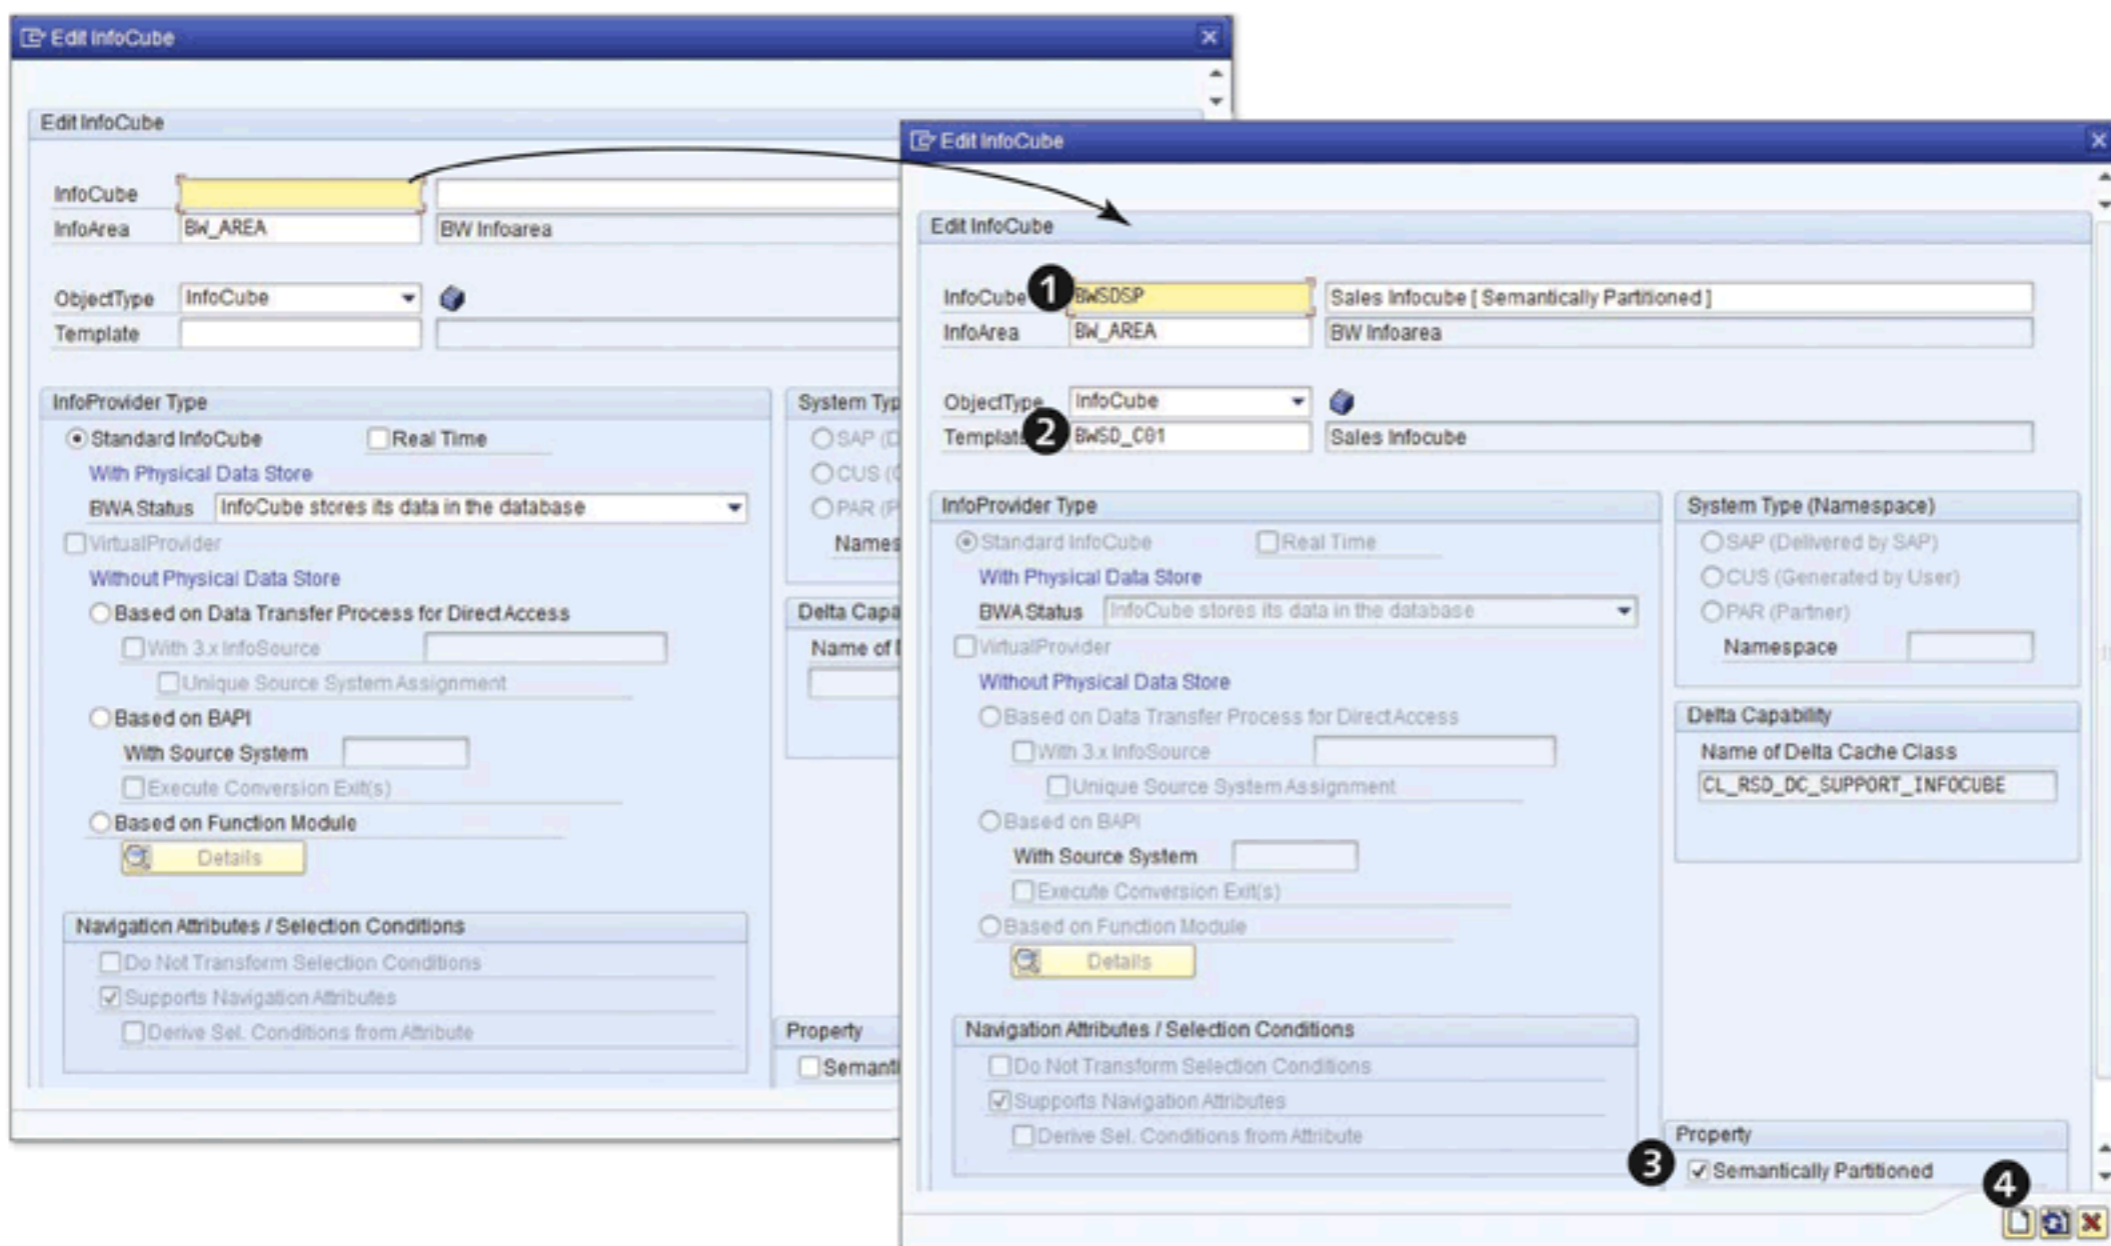
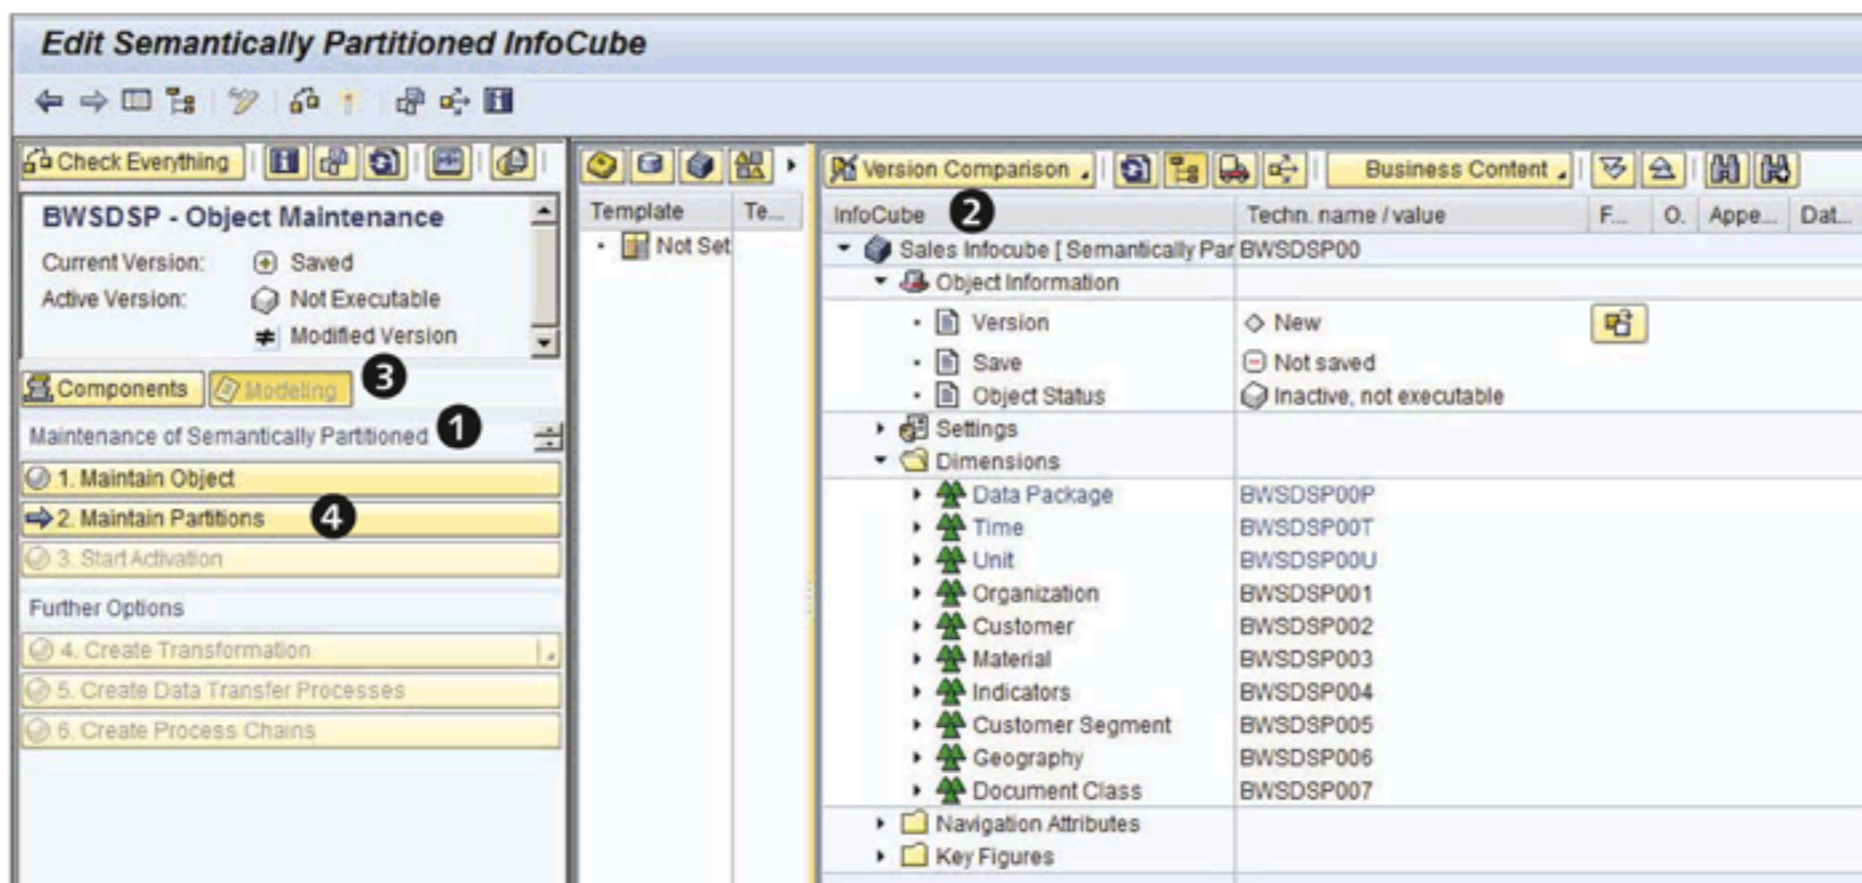
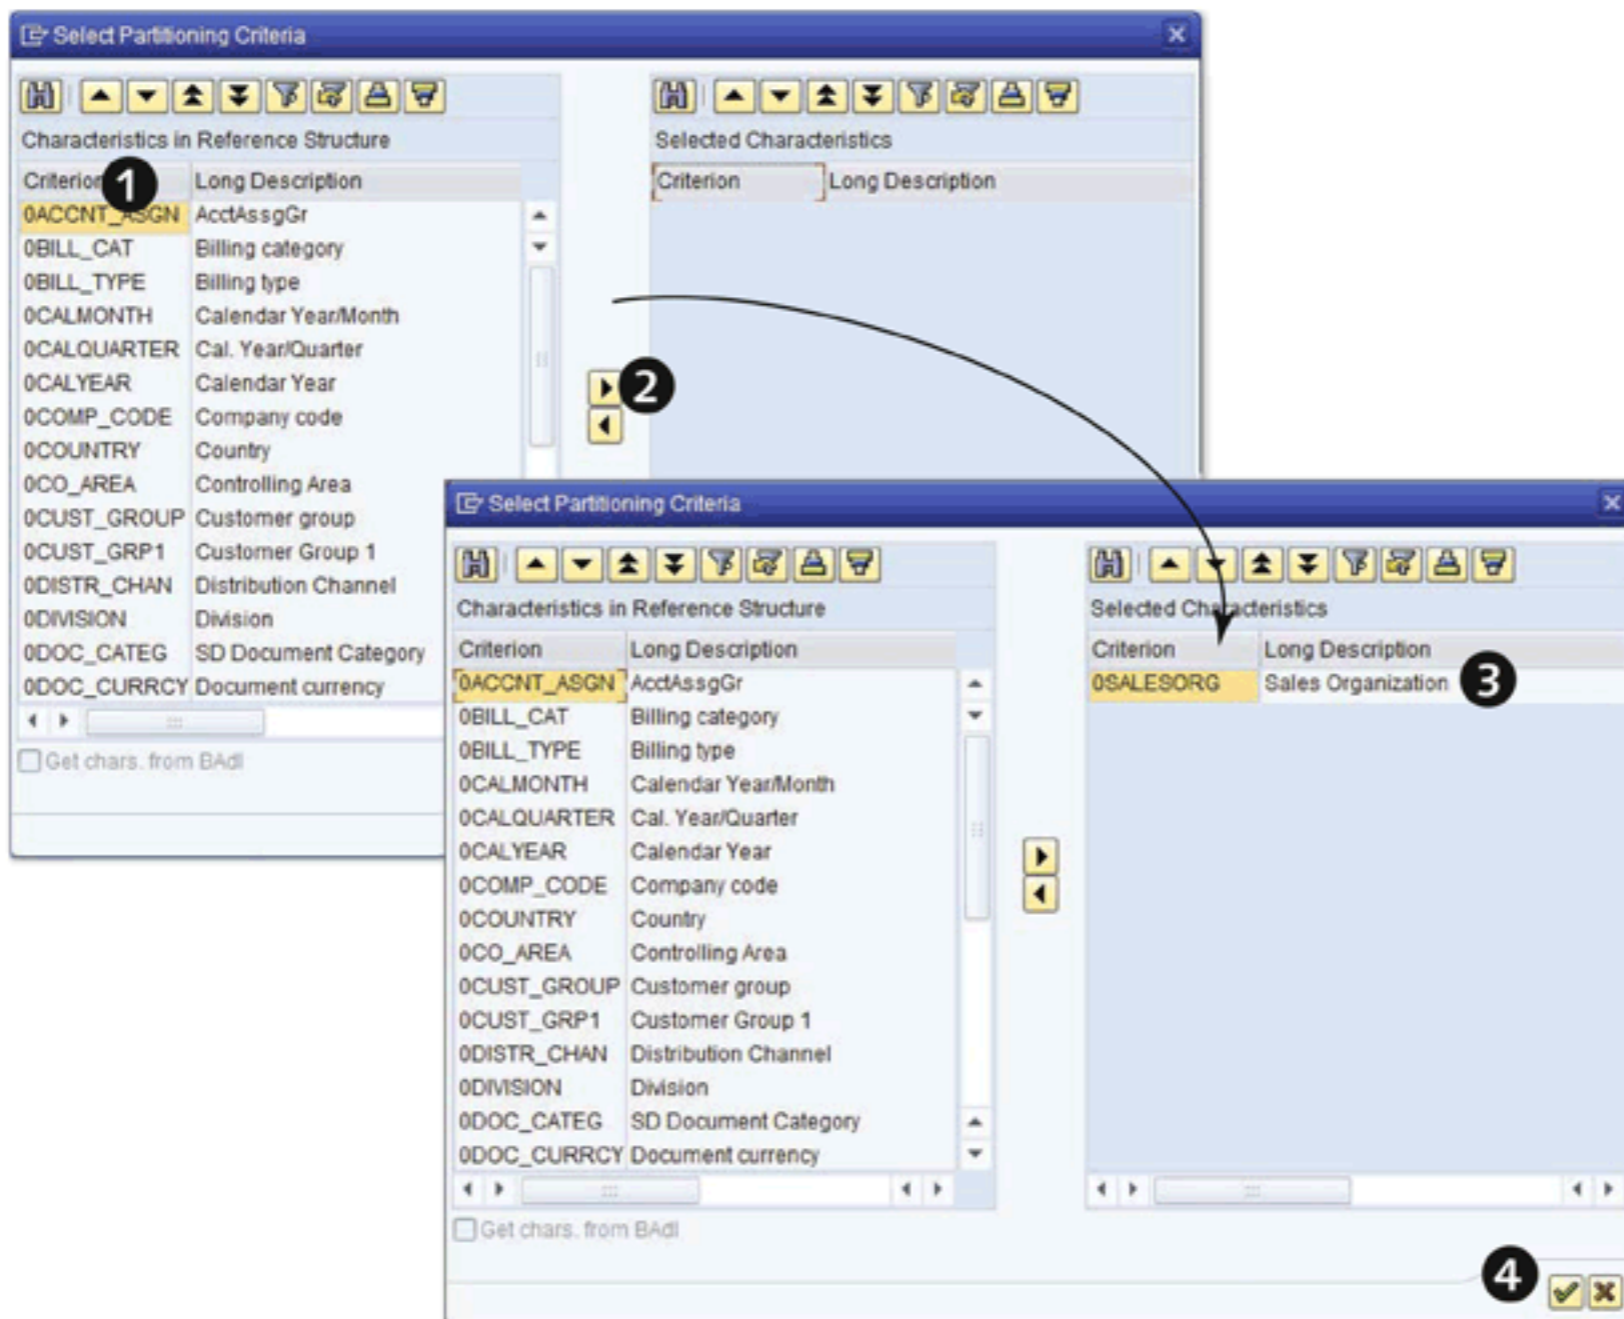

Figure 6.39 Create SPO: Part 2
Figure 6.40 Edit SPO
Figure 6.41 Partitioning Criteria
Select the InfoArea under which you want to create your SPO (2). From the context menu, select CREATE INFOCUBE (3). The EDIT INFOCUBE screen appears, as shown in Figure 6.39.
Enter the technical name and description of the SPO (1 of Figure 6.39). In our example, the SPO's technical name is BWSDSP, and its description is SALES INFOCUBE [SEMANTICALLY PARTITIONED]. You can also use an existing InfoCube as a template to create a new SPO by entering the name of the existing InfoCube in the TEMPLATE field. In our example, InfoCube BWSD_C01 is used as a template, as shown in 2 of Figure 6.39.
Since this is a semantically partitioned InfoCube, select the property SEMANTICALLY PARTITIONED, as shown in 3 of Figure 6.39. Click on the CREATE icon, as shown in 4. This takes you to the screen where you define the reference data model for the SPO (Figure 6.40).
As shown in ❶ of Figure 6.40, there are six steps to define and configure a SPO:
The right side of the screen, as shown in ❷ of Figure 6.40, displays the definition of InfoCube BWSD_C01, which is taken as the template. The system first creates the reference structure using InfoCube BWSD_C01 as the template. The system names this reference structure BWSDSP00 and refers to it when a new partition for an SPO is designed. All of the dimensions, navigational attributes, and key figures of BWSD_C01 are available here. As shown in ❸ of Figure 6.40, the
MODELING section is selected by default. The COMPONENT section displays the included components of the SPO. Click on MAINTAIN PARTITION, as shown in ❹ of Figure 6.40. This brings you to the SELECT PARTITIONING CRITERIA screen, as shown in Figure 6.41.
All the characteristics of reference structure BWSDSP00 are displayed here (❶ of Figure 6.41). Select characteristics from the left-hand side that should be used to partition the data semantically; for our example, we use characteristic 0SALESORG (SALES ORGANIZATION). Select 0SALESORG and click on the TRANSFER icon, as shown in ❷ of Figure 6.41. Characteristic 0SALESORG is now available under SELECTED CHARACTERISTICS (❸). Click on the OK icon as shown in ❹ to continue with the definition of the SPO. This brings you to the screen MAINTENANCE OF CRITERIA FOR PARTITIONED OBJECT, as shown in Figure 6.42.